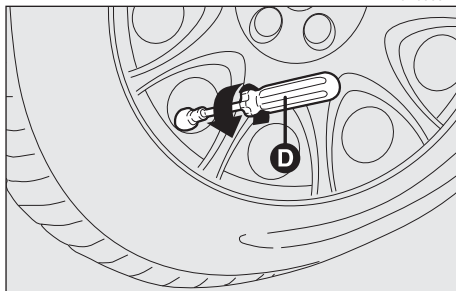

fig. 15
3) Unscrew the tyre valve plug, remove the element inside the valve by using the appropriate tool (**D-fig. 15**); be careful not to place it on the sand or on a dirty surface .